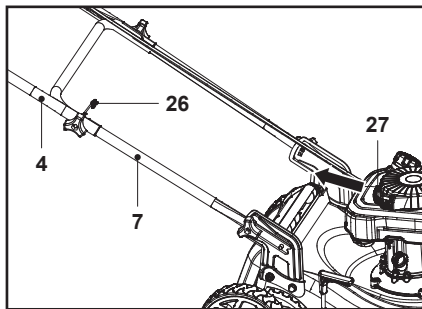

Fig. 12
2. Pull the recoil starter handle (27) lightly until you feel resistance then pull it rapidly. Do it repeatedly until the engine starts (Fig. 12).